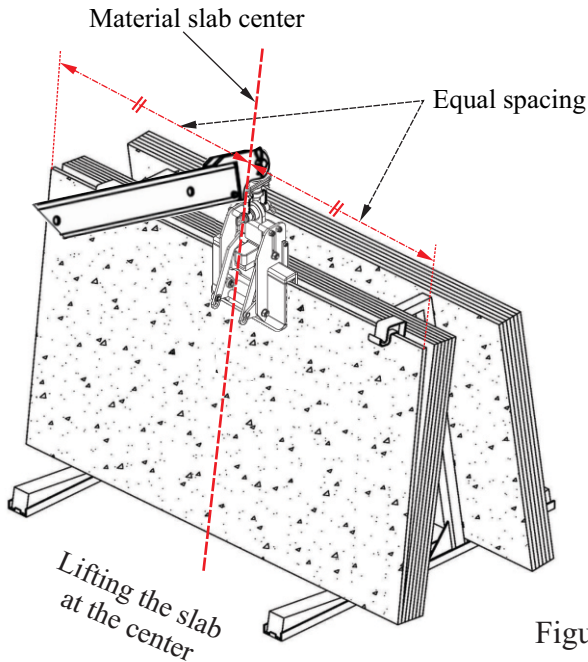

Figure 3.1
- Lowering the lifter to be perpendicular to the slab and place at the center of the slab (Figure 3.1).